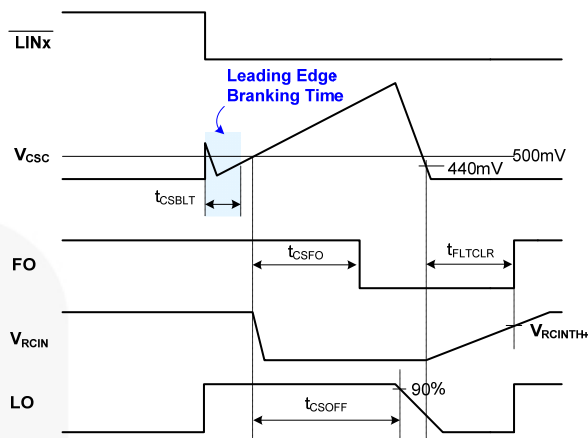

Figure 42. C_{RCIN} and Fault-Clear Waveform Definition
Figure 42 shows the waveform definitions of RCIN, FO, and the low-side driver; which uses a soft turn-off method when an under-voltage condition of the low-side gate driver supply voltage (V_{DD}) or the current-sense pin (CS) recognizes a fault. If a fault condition occurs, the FO Pin is internally pulled to COM and all outputs (HO1,2,3 and LO1,2,3) of the gate driver are turned off. Low-side outputs decline linearly by the internal sink current source ($I_{SOFT}=40\text{mA}$) for soft turn-off, as shown in Figure 42.